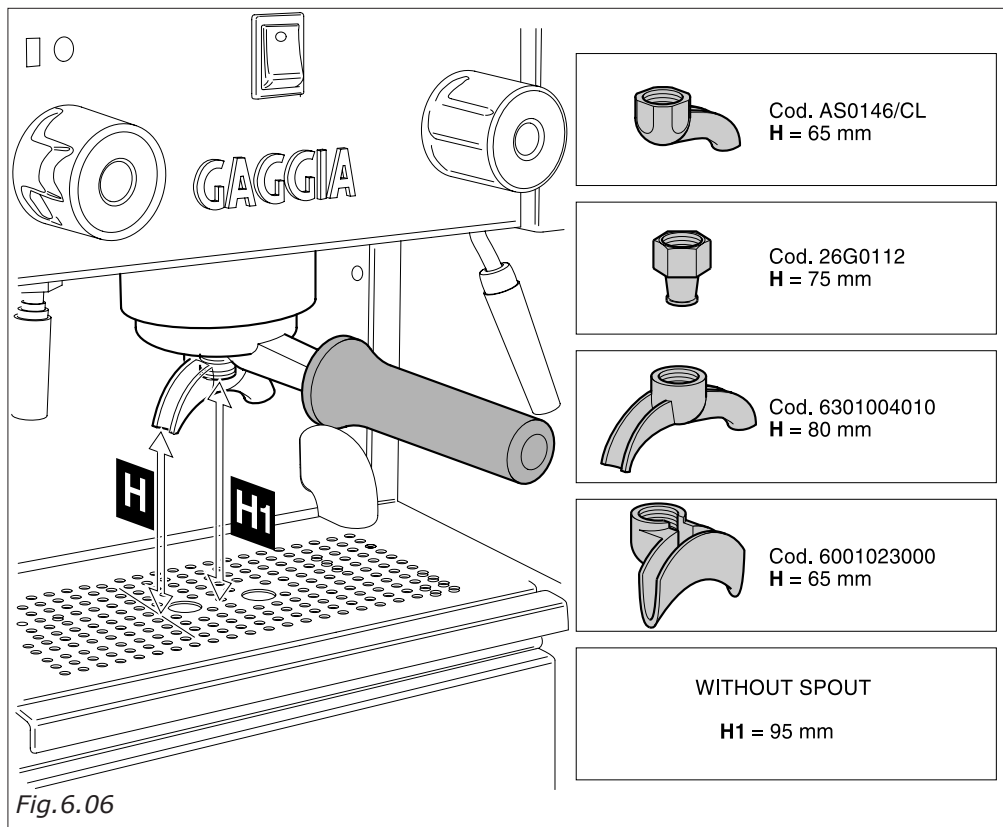

Fig.6.06
6.2 SPOUTS INCLUDED IN THE SUPPLY (Fig.6.06)